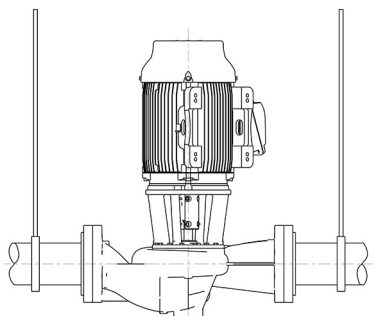

Figure 2
**Series e-82** pumps with up to 3 inch nozzles and up to 215 NEMA frame motors can be installed directly in the piping with pipe hangers adequate to carry the loads from the pump and piping. See Figure 2 on page 13.